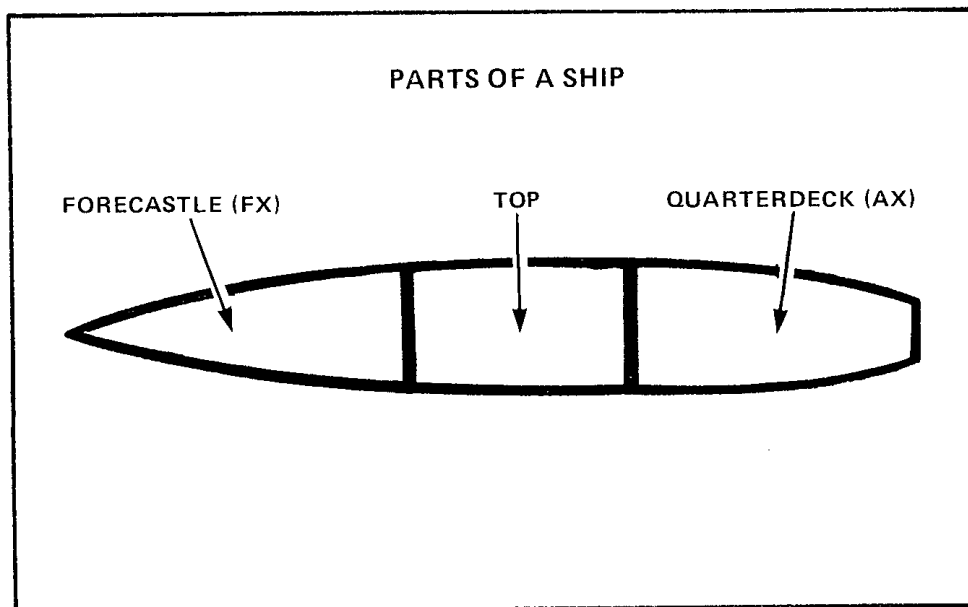

Figure 9-13 Parts of Ship
56. **Parts of Ship** — In addition to being divided into watches, a ship's company of parts of it, is divided into **parts of ship** mainly for the purposes of cleaning and maintenance of the **upper deck**. The three parts of ship are forecastle, top and quarter-deck. (See Figure 9-13).